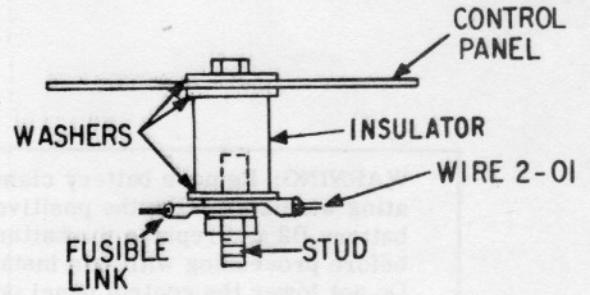

Figure 4B
- Be careful not to strip the threads of the insulator when connecting wires to the insulated stud. See Figure 4B. Hand tighten the stud to the insulator. Tighten the nut to the stud and bolt to the insulator with 42-46 inch pounds of torque.